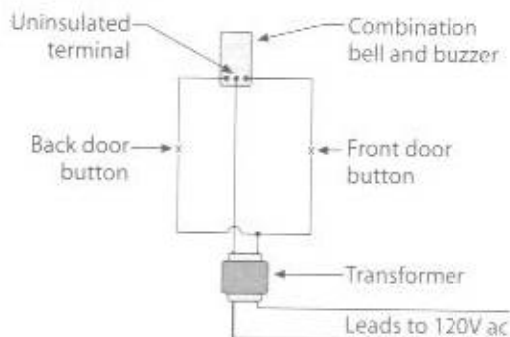
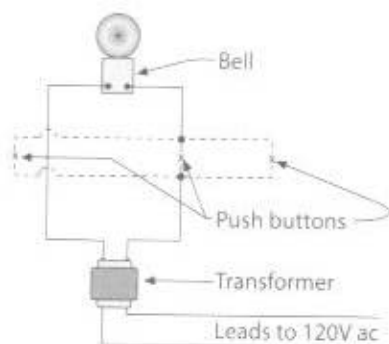

Fig. 18-2 This diagram shows how to add a buzzer for the back door.
Fig. 18-1 The wiring of a doorbell with a transformer is simple.
**Doorbells** For installation of a doorbell, consider the two secondary or low-voltage terminals on the transformer as the SOURCE for a circuit, the bell as the outlet, and the button as a switch. Breaking it down this way makes all these diagrams very simple. Fig. 18-1 shows the installation of one bell with a push button in one location. If a button is wanted in an additional location, install it as shown in the dotted line, in parallel with the first button.
In most installations, a single bell is not considered enough. One choice is to install a bell for the front door and a buzzer for the back door. You will see that Fig. 18-2 is the same as Fig. 18-1 for a single bell, with the buzzer now added as shown with the dotted lines.